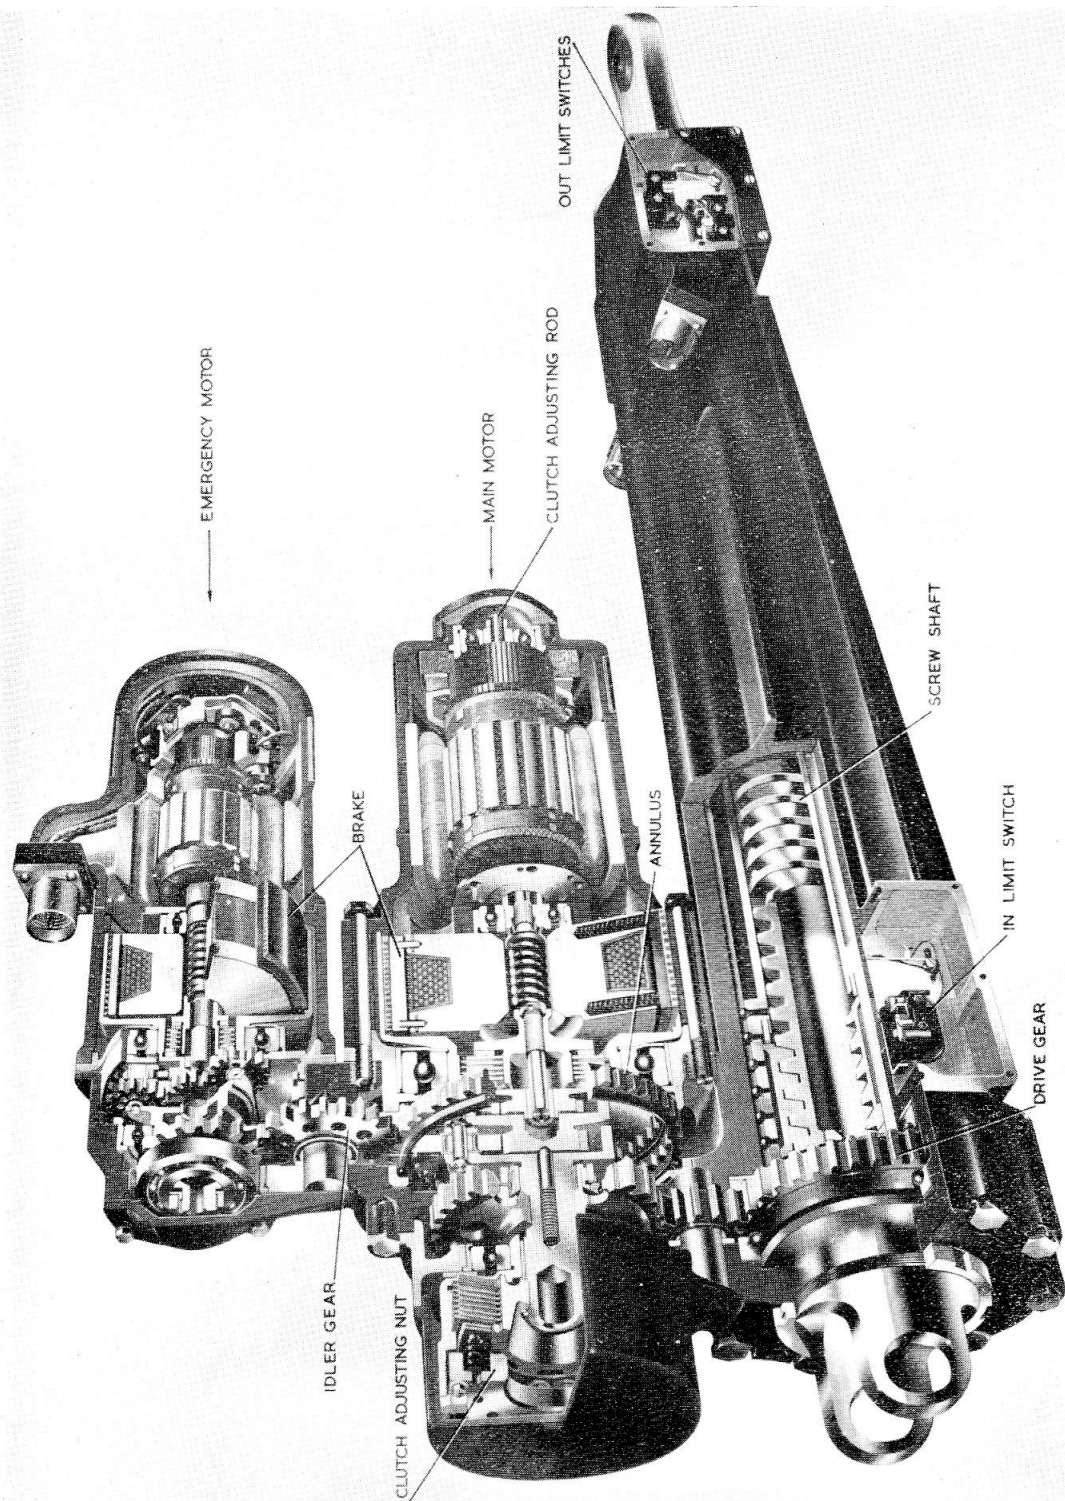

Fig. 1. Sectional view of typical A1400 series actuator
2. A sectional view of a typical actuator in the series is shown in fig. 1. These actuators have their motors offset from, and parallel to, the ram axis. Each machine consists of a main motor, emergency motor and the ram and screwshaft assembly.